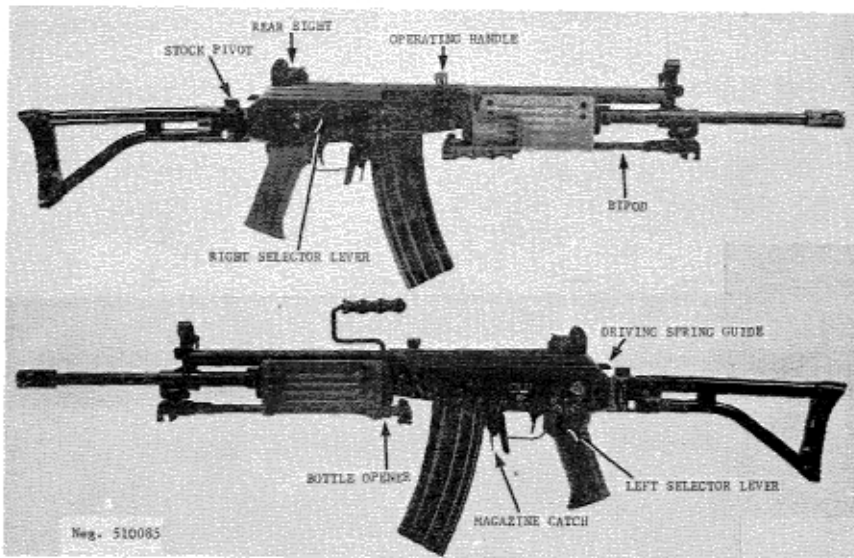
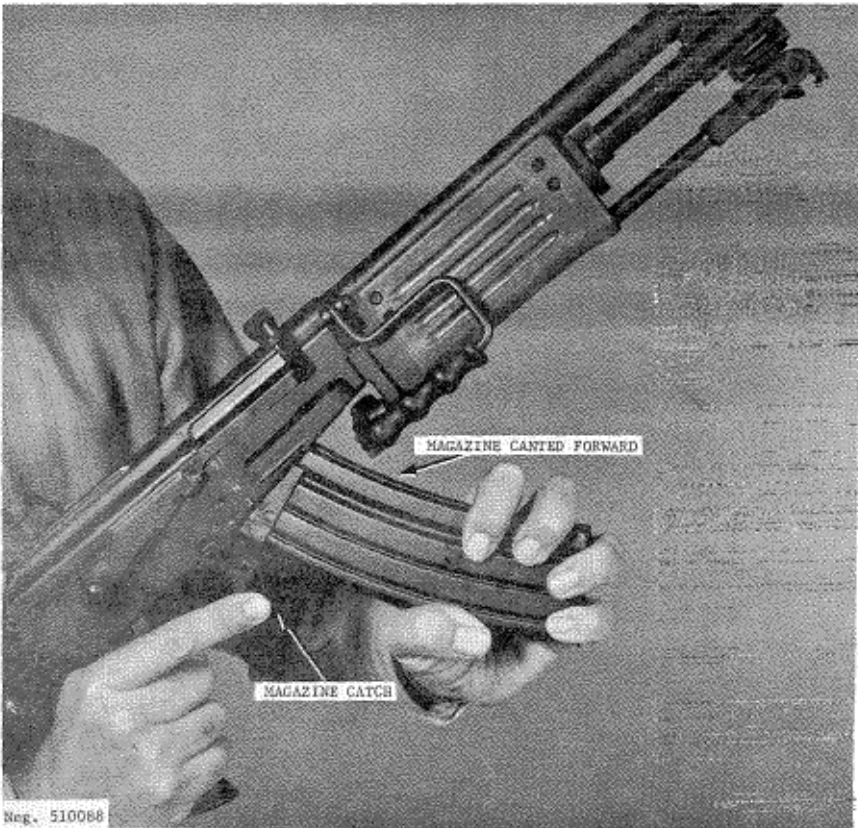

Figure 86. Israeli Galil rifle.
Figure 89. Loading the Galil.
a. The 5.56-mm Galil rifle (fig 86) is a standard Israeli Army weapon. This rifle's design is based on the Soviet AK-47, with improvements to meet Israeli requirements. The Galil can be identified by its large rectangular forearm, prominent front sight mount and the gas cylinder, unique bent-up operating handle, and permanently attached bipod.
a. Remove the magazine by pressing the magazine catch (fig 86) forward and then rotating the magazine forward, out of the rifle. Place a 5.56x45-mm cartridge on the magazine follower and press the cartridge down until it rolls sideways, under the feed lip. Repeat until the magazine is full.
b. Unfold the stock by pressing down on the stock pivot (fig 86) until the stock can be swung outward. Rotate the stock rearward until it locks in place. The stock is folded by again pressing down on the stock pivot until it unlocks from the receiver; then swing the stock forward until it locks in place.
c. Set the rear sight (fig 86) for range by flipping it forward (300-meter setting) or rearward (500-meter setting). The front sight can be adjusted to zero the rifle. Refer to paragraph 137e for use of night sights.
d. When firing from the prone position, especially at longer ranges, the bipod (fig 87) should be used to steady the rifle. Squeeze the bipod legs together to disengage them from the bottle opener (fig 86), swing them forward, and allow them to spring
e. To load the Galil, insert a loaded magazine into the magazine well so that the lug on the top front of the magazine engages its recess in the well. (This requires that the magazine be canted forward.) Swing the magazine rearward until the magazine catch (fig 89) snaps into place. Move the selector from safe, if necessary, by pressing the right selector lever (fig 86) down or the
left selector lever (fig 86) rearward. Pull the operating handle (fig 86) fully rearward and release it. CAUTION: The Galil is now loaded and ready to fire! If the rifle is not to be immediately fired, move the right-hand selector up, or the left-hand selector forward, to render the rifle safe.
a. Clear the rifle (para 134h), but do not place the selector on safe or insert the magazine. Press the driving spring guide (fig 86) inward as far as possible, and, while holding it in, pull up the rear end of the receiver cover to disengage it from the receiver. Remove the receiver cover. Press the driving spring guide far enough forward to disengage it from its seat in the receiver. Remove the driving spring assembly.